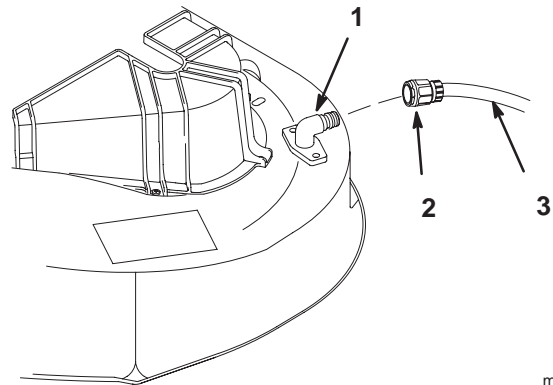

Figure 54
- Screw the coupling to the end of a garden hose, attach the coupling to the mower washout fitting, and turn the water on high (Fig. 54).